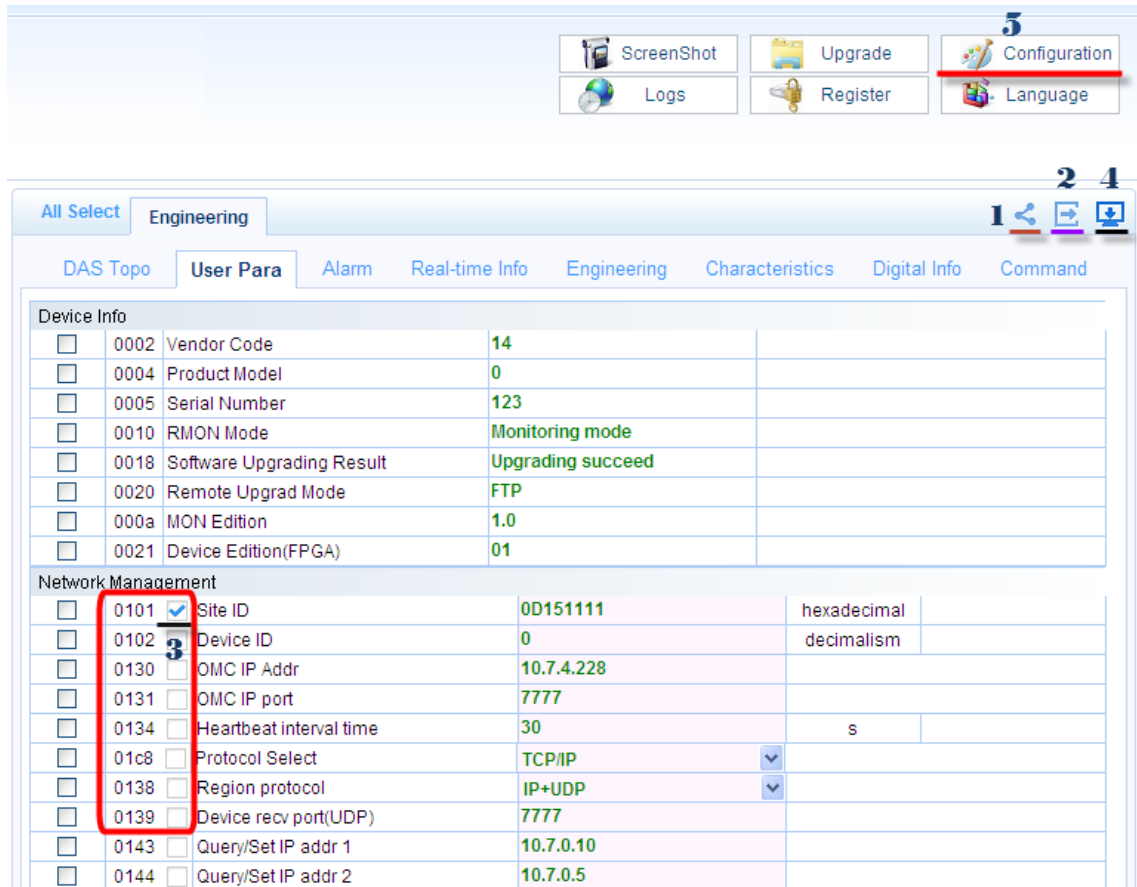
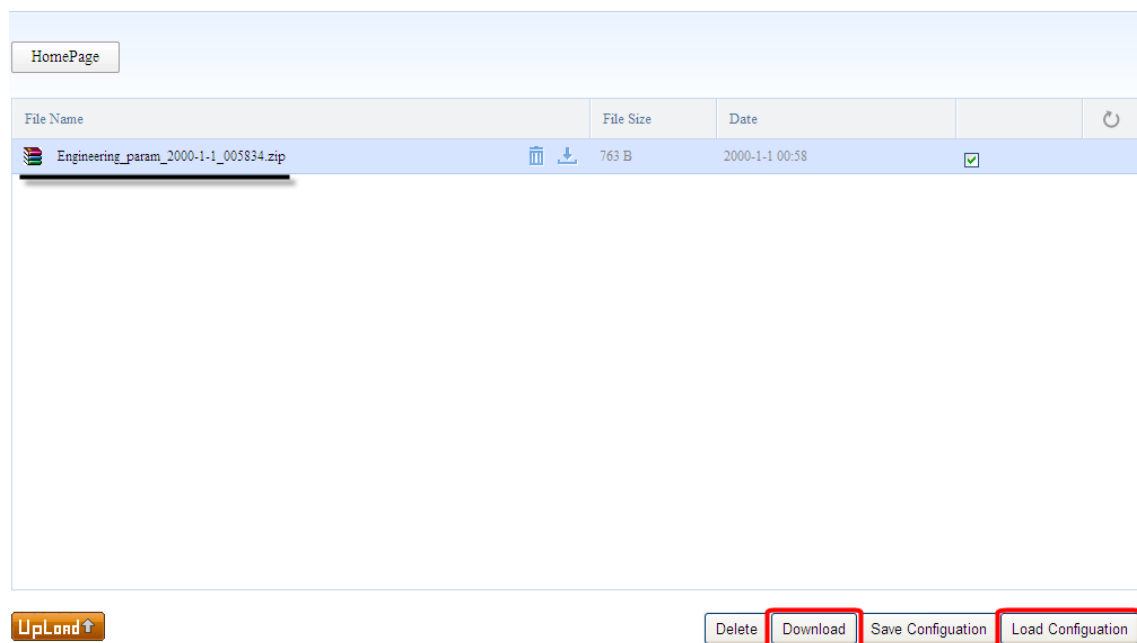

Figure 7-9 Configuring User Parameters
Figure 7-10 Download and Load Configuration
To configure the parameters, use the following procedure and refer to Figure 7-9 and Figure 7-10:
2. Click the  button to show the parameter ID numbers. See **1** in Figure 7-9.
3. Click the  button to show the configurable parameter choice box. See **2** in Figure 7-9.
4. Check the parameter that you want to configure. See the blue check mark in **3** in Figure 7-9.
5. Click the  button to save the configuration. See **4** in Figure 7-9. *Note:* you can also use the **Save Configuration** button on the Configuration page shown in Figure 7-10. (See next step.)
6. Click the **Configuration** button. (See **5** in Figure 7-9.) This takes you to the Configuration page. In Figure 7-10, the underlined file contains the configuration parameter data. Use the **Download** and **Load Configuration** buttons to save the file to a local PC and load the file to the WebOMT, respectively. See the red frames in Figure 7-10.